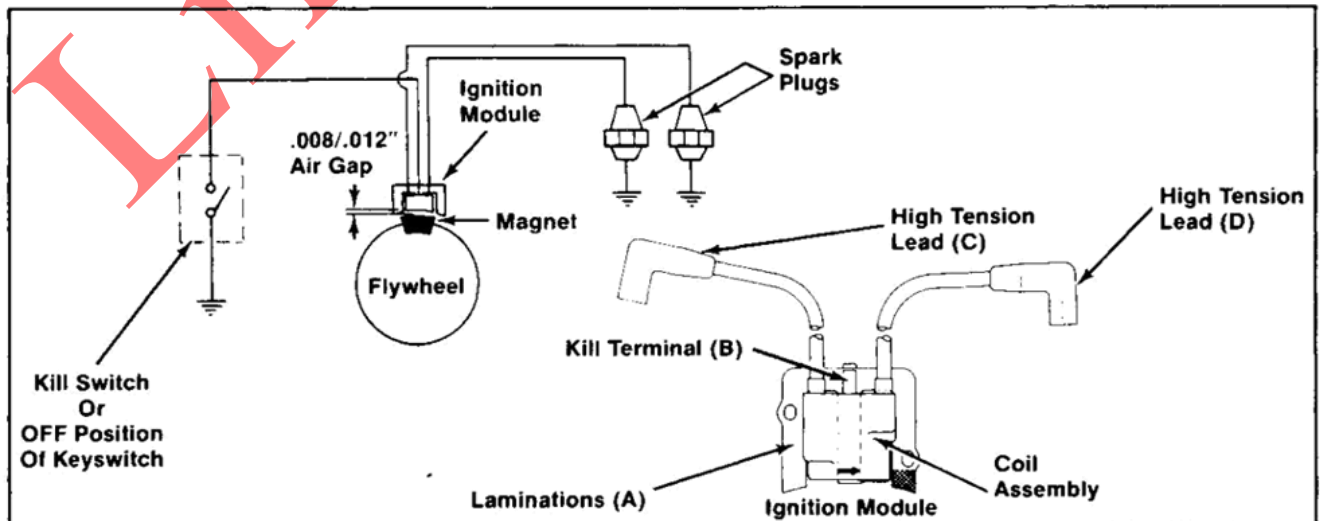

Figure 8-1. Magnum Electronic Magneto Ignition System.
Magnum vertical shaft engines are equipped with a state-of-the-art electronic magneto ignition system. The system consists of the following components (refer to Figure 8-1):
4a. Measure the primary resistance of module using an ohmmeter (refer to figures 8-1 and 8-3): Connect negative (-) lead of ohmmeter to kill terminal (B); connect positive (+) lead of ohmmeter to laminations (A). With the ohmmeter leads connected in this manner, the primary resistance should be 5 to 1000 ohms* . Reverse the ohmmeter leads. Connect the negative (-) lead to laminations (A); connect the positive (+) lead to kill terminal (B). With the ohmmeter leads connected in this manner, the primary resistance should be 30,000 ohms minimum . *NOTE: Resistance may vary, depending on voltage imposed by ohmmeter.	If resistance is low or 0 ohms in both directions, module primary is shorted. Replace module. If resistance is high or infinity ohms in both directions, module primary is open. Check keyswitch/wiring for shorts or connections which could apply 12V to kill terminal B. Correct those conditions, then replace module. If resistance is within range, module primary is OK. Test secondary (Test 4b).
4b. Measure the secondary resistance of module using an ohmmeter. Refer to Figures 8-1 and 8-4. Secondary Leads/Terminals C - D Secondary Resistance 22,000/42,000 ohms	If resistance is within range, module secondary is OK. If resistance is low or 0 ohms, module secondary is shorted. Replace module. If resistance is high or infinity ohms, module secondary is open. Replace module.